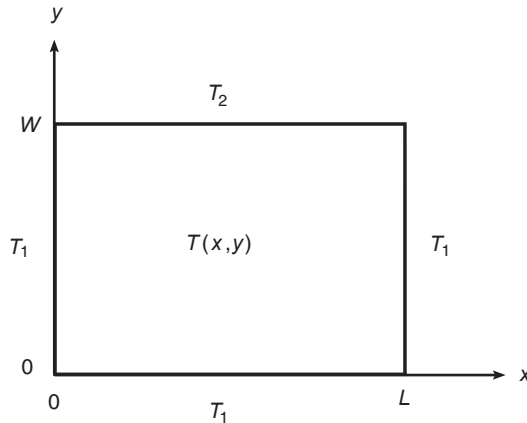

Figure P38
38. Many applications require us to know the temperature distribution in an object. For example, this information is important for controlling the material properties, such as hardness, when cooling an object formed from molten metal. In a heat-transfer course, the following description of the temperature distribution in a rectangular metal plate is often derived. The temperature is held constant at  $T_1$  on three sides and at  $T_2$  on the fourth side (see Figure P38). The temperature  $T(x, y)$  as a function of the  $xy$  coordinates shown is given by